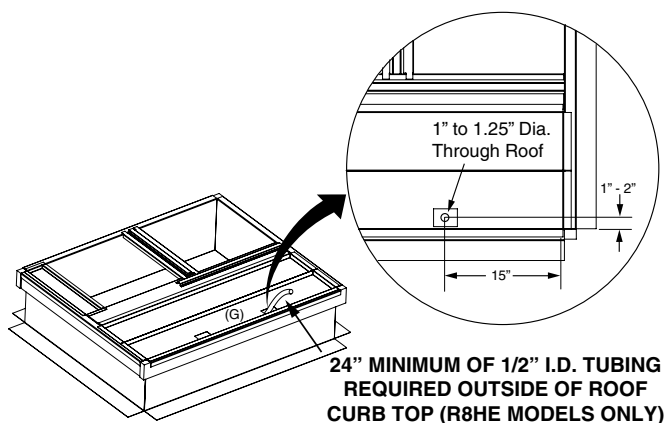

Figure 25. Roof Curb for 2 - 5 Ton Units
- Nordyne Condensate Drain & Vent Kit # 922485 is set up for installing the HX condensate drain line straight down through the roof. It is recommended to drill a 1.00"-1.25" diameter hole through the roof below the rectangular opening located in outer close off curb panel (G) of Nordyne offered curbs, approximately 15" in from the short side of curb and 1"-2" in from the long side of curb. See Figure 25.
- If drilling a hole is not an option, routing the condensate drain hose over to the duct passage opening with enough slope is acceptable as long as drain line is secured to curb and duct, ensuring no kinks or traps can form between the collector box drain or interior of the building. Leave a minimum of 24" drain line extending out the top of roof curb front close off panel (G) for passage through unit bottom and connection to unit drain when unit is being set. See Figure 25. Seal roof penetration as required.